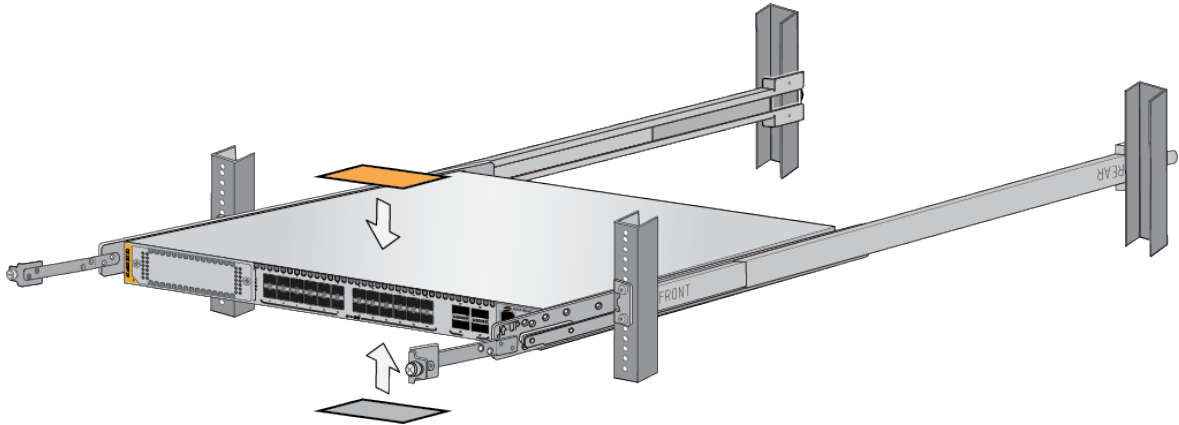

Figure 117. Affixing the Warning Labels
2. Affix the provided warning labels to the top and bottom of the switch, in locations immediately visible when removing the device from the rack. Refer to Figure 117 on page 185.